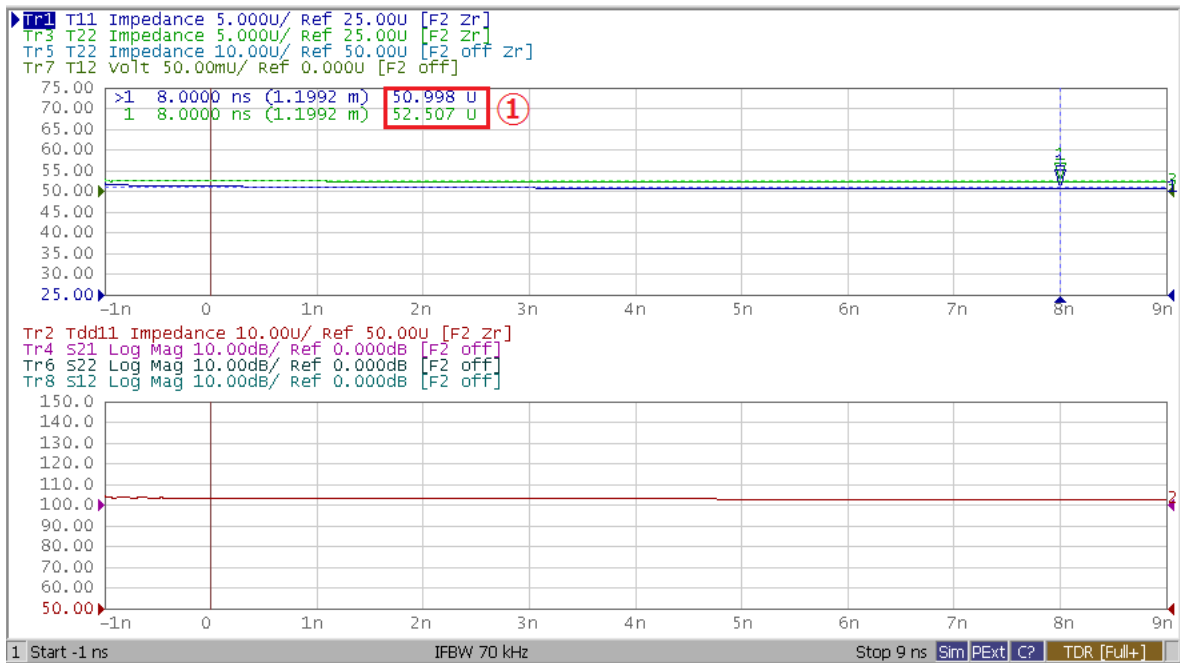

Figure 5-2 Single Ended Output Impedance (HS-TX) Example
6. Read the marker values² (item 1 in Figure 5-2) as Z_{OS} for the Dp and Dn pins.